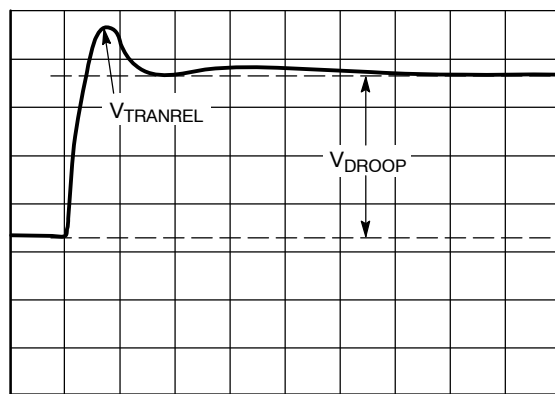

Figure 39. Transient Setting Waveform, Load Release
- For load release (see Figure 39), if $V_{TRANREL}$ is larger than the value specified by IMVP-6.5, a greater percentage of output capacitance is needed. Either increase the capacitance directly or decrease the inductor values. (If inductors are changed, however, it will be necessary to redesign the circuit using the information from the spreadsheet and to repeat all tuning guide procedures).